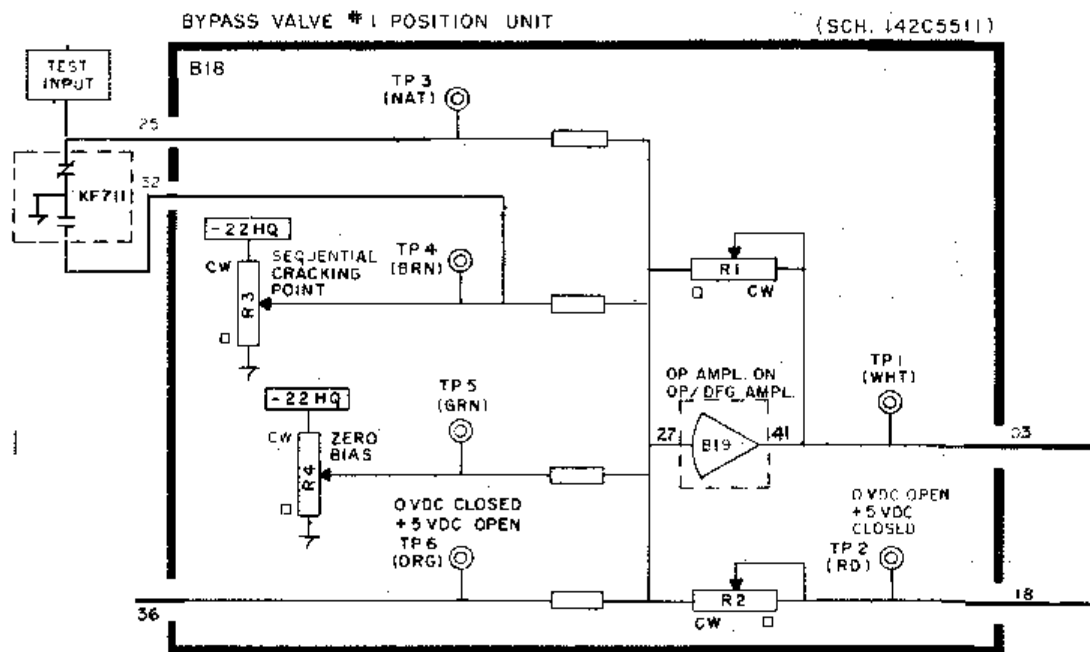

Figure 1
8.1 Brunswick Drawing (Figure 1)